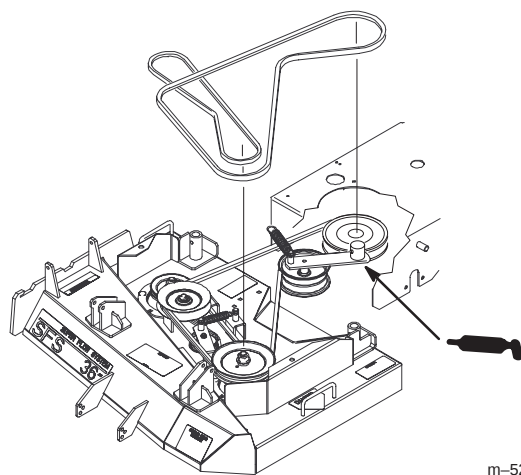

Figure 27
2. Grease the fitting on the PTO belt idler arm pivot (Fig. 27).